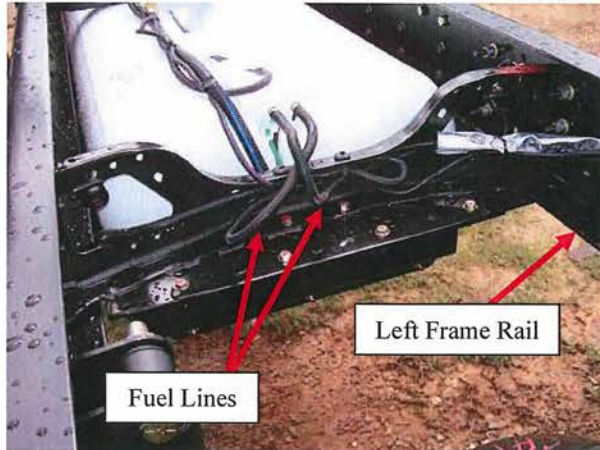

Figure 3
6. Locate fuel lines at the rear of the bus behind the rear axle and at the front of the fuel tanks. (Figure 3).